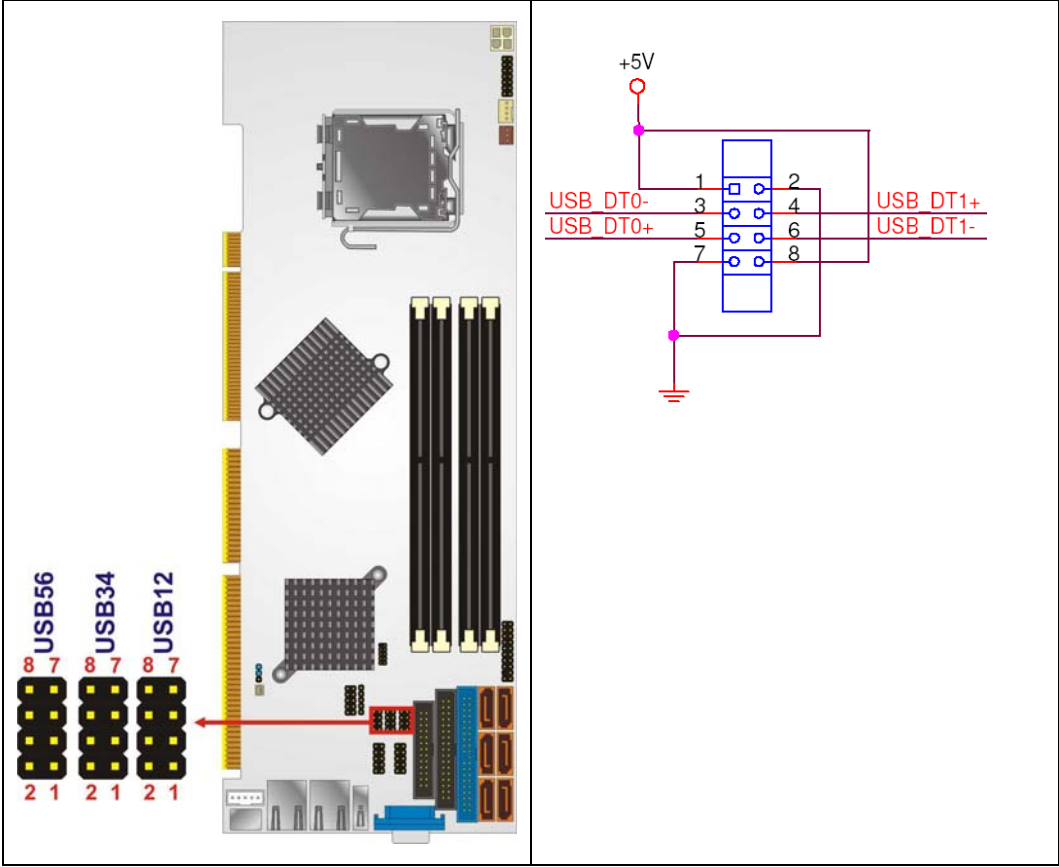

Figure 4-15: USB Connector Locations
**CN Location:** See Figure 4-15